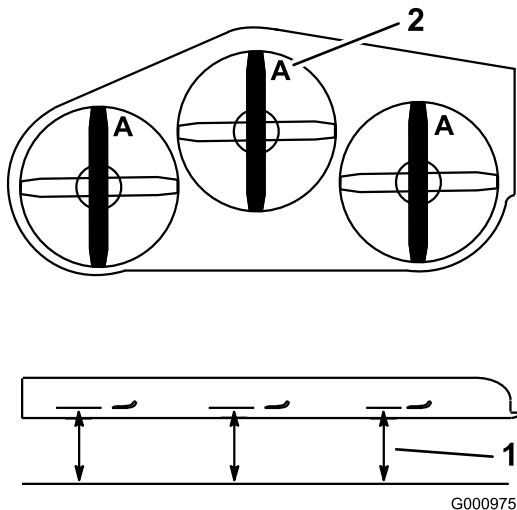

Figure 90
3. Rotate the blades until the ends face forward and backward (Figure 90).
4. Measure from a level surface to the cutting edge, position **A**, of the blades (Figure 90).